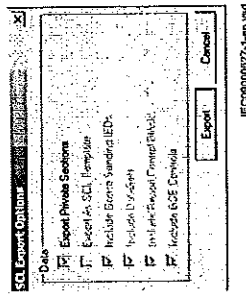

Figure 65: IEC 61850: SCL Export Options
4. The *SCL Export Options* window opens, see Figure 65.